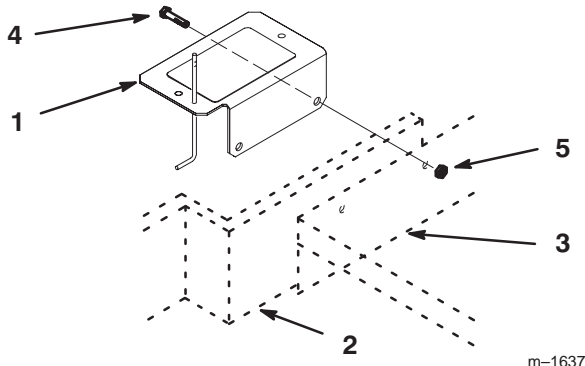

Figure 7
1. Mount battery holder and cutting unit carrier frame at the same time to upper holes on right side of traction unit. Use (2) 1/2 x 1-3/4" (32 mm) flange head capscrews and (2) 1/2" locknuts (Fig. 7).